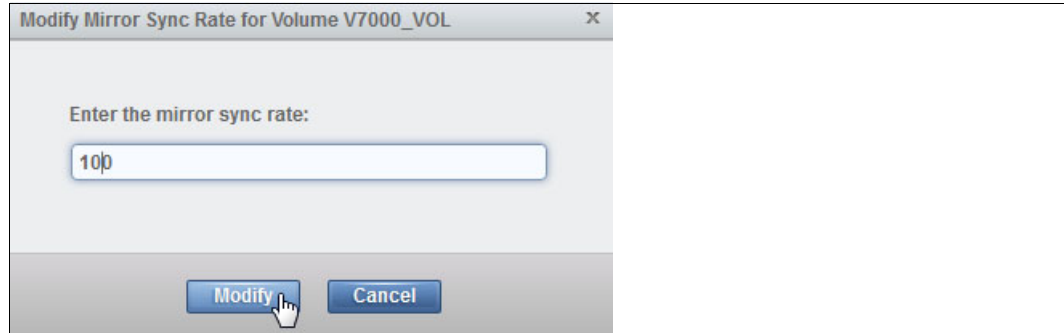

Figure 5-9 Modify Mirror Sync Rate window
5. Change the value of Mirror sync rate, as shown in Figure 5-9. Click **Modify** after changing the sync rate.